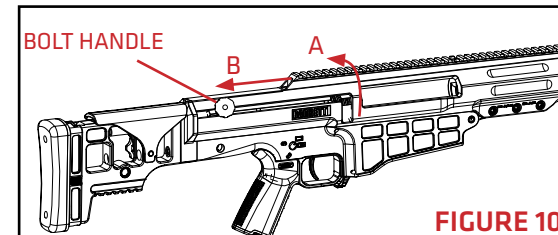

FIGURE 10
2. With the rifle pointed in a safe direction, lift the bolt handle (**FIGURE 10-A**) then pull it to the rear of the rifle (**FIGURE 10-B**).